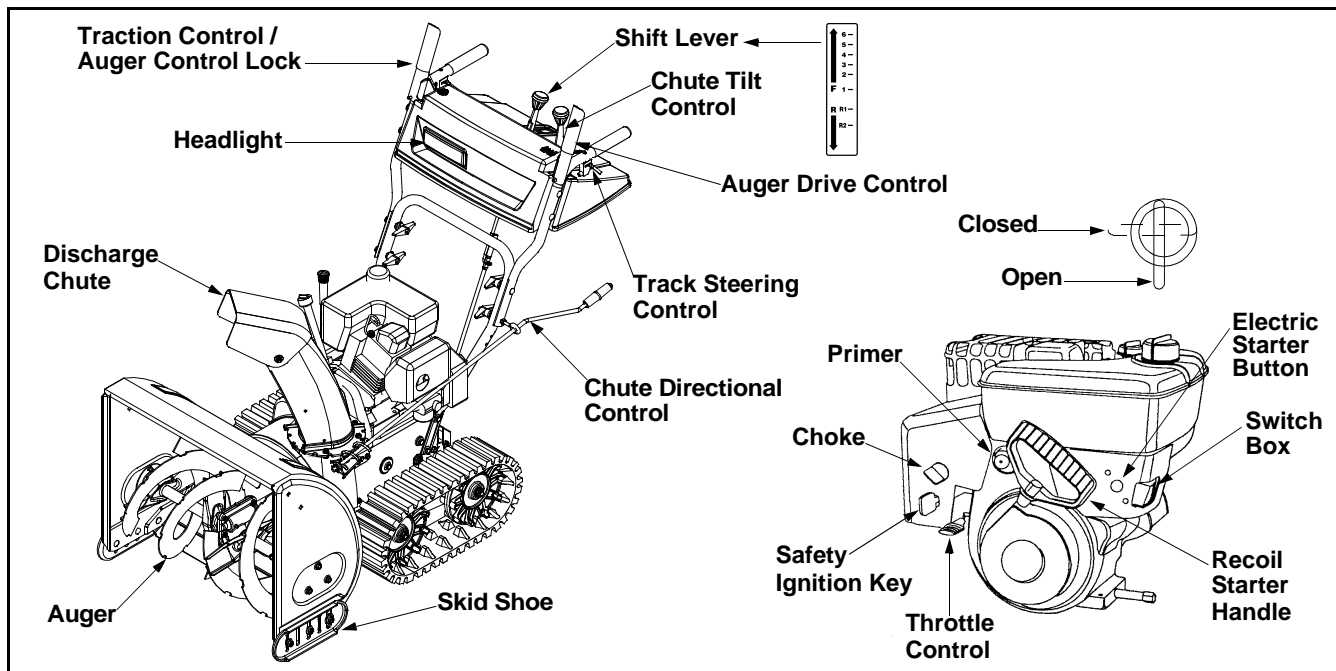

Figure 7
- Move the shift lever into sixth (6) position.
- a. With the traction control (refer to Figure 7) released, squeeze in triggers and gently push the snow thrower forward, then pull it back. Disregarding the overall weight of the snow thrower, the machine should otherwise move freely.
The traction control is located on the right handle. Squeeze the traction control to engage the wheel drive. Release to stop. See Figure 7.
Release to stop the snow throwing action. (Traction control must also be released.) See Figure 7.
The distance snow is thrown can be changed by adjusting the angle of the chute assembly. Move the chute tilt control forward to decrease the distance, toward the rear to increase. See Figure 7.
The position of the skid shoe is determined by the condition of the ground from where snow has to be removed. See Figure 7.
The chute directional control is located on left side of the snow thrower. See Figure 7.
The shift lever is located in the center of the handle panel and is used to determine both ground speed and direction of travel. It can be moved into any of eight positions. See Figure 7.
The left and right track steering controls are located on the underside of the handles and are used to assist in steering the snow thrower. Squeeze the right track control when turning right, squeeze the left control when turning left. Operate your snow thrower in open areas until you become familiar with these controls. See Figure 7.
The throttle control is located on the engine. It regulates the speed of the engine and will shut off the engine when pushed down completely. See Figure 7.
The safety ignition key must be fully inserted in the switch before the unit will start. Remove the ignition key when the snow thrower is not in use. See Figure 7.
The fuel shut-off valve, located under the fuel tank, controls fuel flow from the tank. Always make certain it is in the Open (vertical) position before attempting to start the engine. See Figure 7.
- Make certain the fuel cutoff valve is in the OPEN (vertical position). See Figure 7.
- Move throttle control up to FAST position. Insert ignition key into slot. See Figure 7. Be certain it snaps into place. **Do not turn key.**